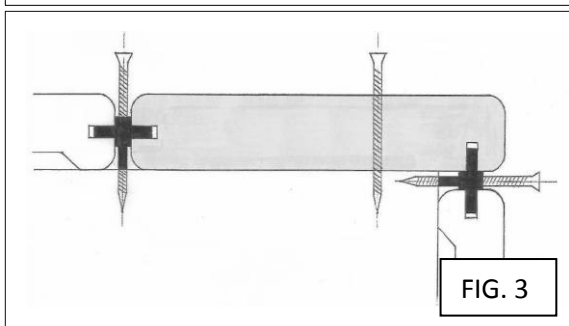

FIG. 3
Cut pencil round edge-boards to length, mitre as required for corners and then fasten the outside edge to the rim joist with screws. Although not critical, it is recommended to overhang the edge-board past the sub-frame to allow for running decking fascia boards vertically down the sides of the deck (figure 3). Pre-drill and countersink all deck screws as per (A). On the other side of the board, insert RIGHTWOOD™ secret-fixing clip into the slot and center on the joist (figure 3). Install a 50x7g 'black-head' stainless steel screw at a 90° angle through the secret-fixing clip and drive flush. Do not over tighten. The clip wings must remain level with the joist for the next board to fit correctly (figure 5 overleaf). Install one secret-fixing clip at each joist location. Slide the next board into place so the wings on the previous clips fit into the slot on the side of the board. Make sure the side gap between the boards is minimum 5-6mm. **Edge Board Grooves to be Done Onsite if Required. Otherwise Face Fix as Described in (A) Above.**
An alternative to using a pencil round edge-board (as per Figure 3) is to use the same profile but as a fascia board (see Figure 6) and fix into rim joist as described in (A). If no edge-board or fascia is being used, the entire perimeter of the deck should be fastened to the rim joist with screws as described in (A). **Fascia Board Grooves to be Done Onsite if Required. Otherwise Face Fix as Described in (A) Above.**